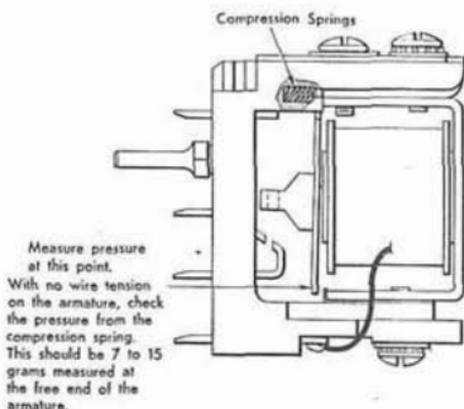

Figure 17
- Figure 17. With no wire tension on the armature, check the pressure exerted by the compression spring. This should be 7 to 15 grams, measured at the free end of the armature.